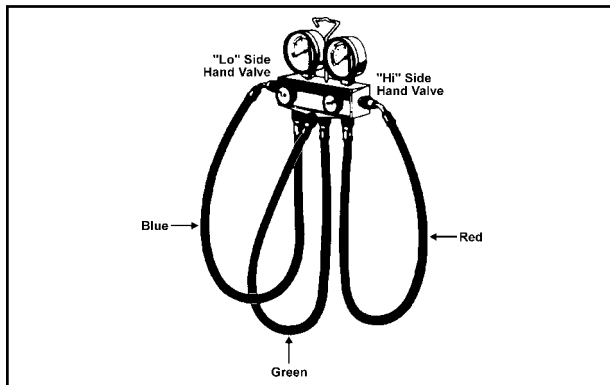

Figure 33: Manifold Gauge Set
- 3) When the manifold gauge set is not in use, connect the end of the hose to the spare fitting of the refrigerant charging hose. (Fig. 33)